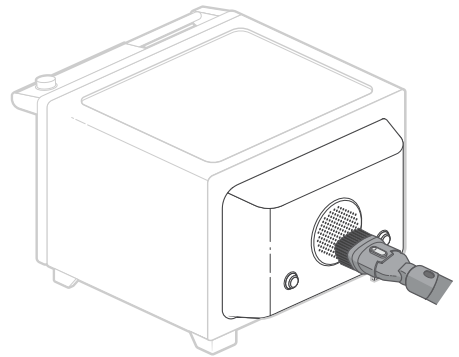

Figure 4.5
- Use a vacuum cleaner with a brush or crevice attachment to clean the vents. [Figure 4.5]